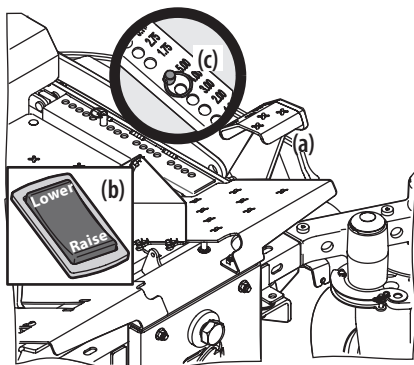

Figure 3-9
1. Use the deck lift pedal (a) or push down on the back of the electric deck lift switch (b) to raise the deck to its highest position, place the clevis pin (c) attached to the tractor into the desired index hole on the deck height index, then slowly release the deck lift pedal (a) or slowly lower the deck by pressing down on the front of the electric deck lift switch (b). See Figure 3-9.